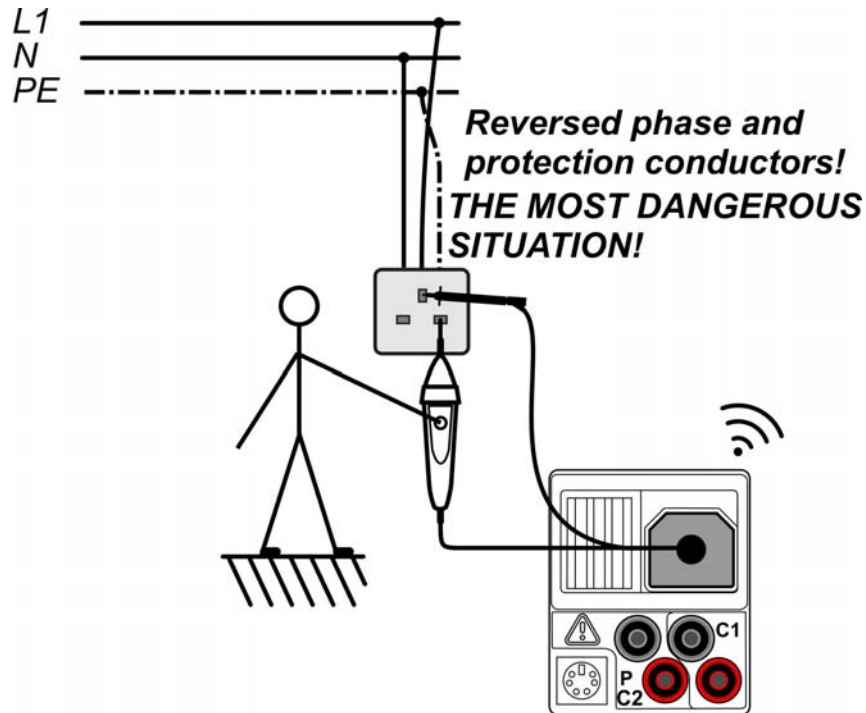

Figure C.3: Reversed L and PE conductors (application of tip commander)
- ❑ **Connect** commander to the item to be tested (see Figure C.3).